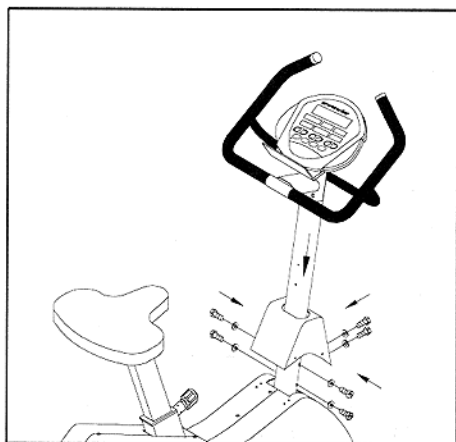

Fig.3
5. Insert the upright post into the cycle frame, securing with six bolts and washers (two bolts and wave washers on each left and right side, and two bolts and flat washers on the front side), as shown in Fig 3.